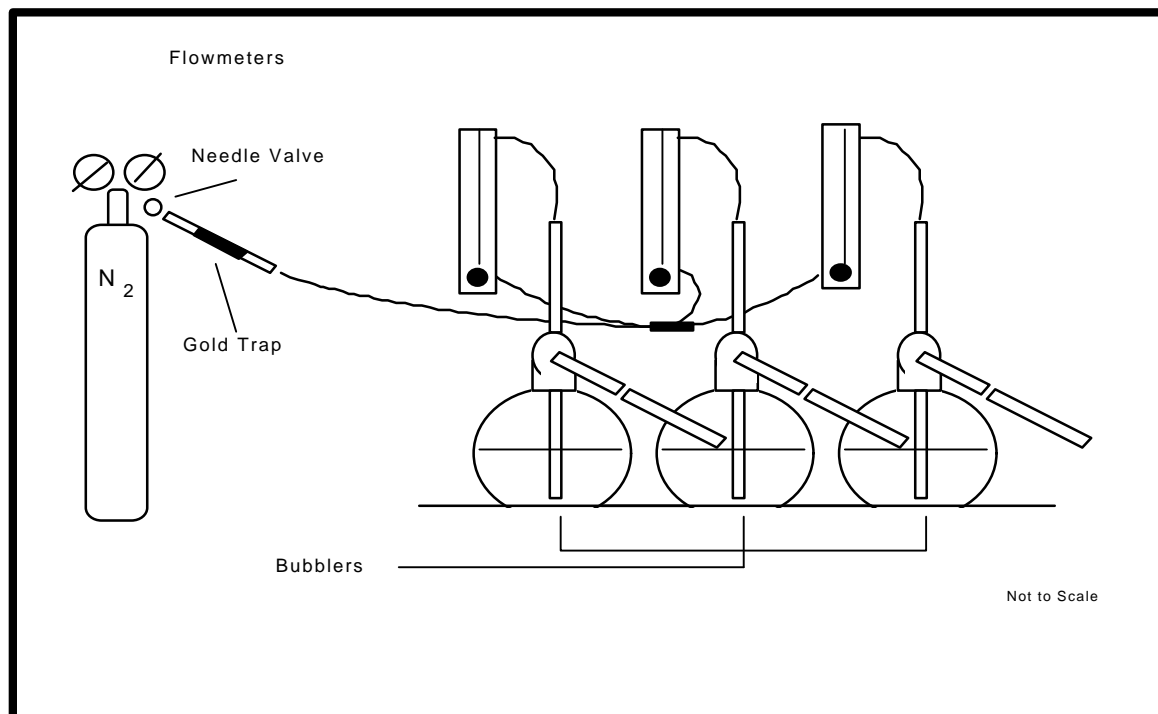

Figure 5. Total Mercury Purging and Trapping System
- 8.3.7 Turn on the N₂ with the small needle valve feeding into the gold trap attached to the regulator unit. Adjust the N₂ flow into the bubblers if necessary. All flow rates should be about 50 units. See Figure 5.